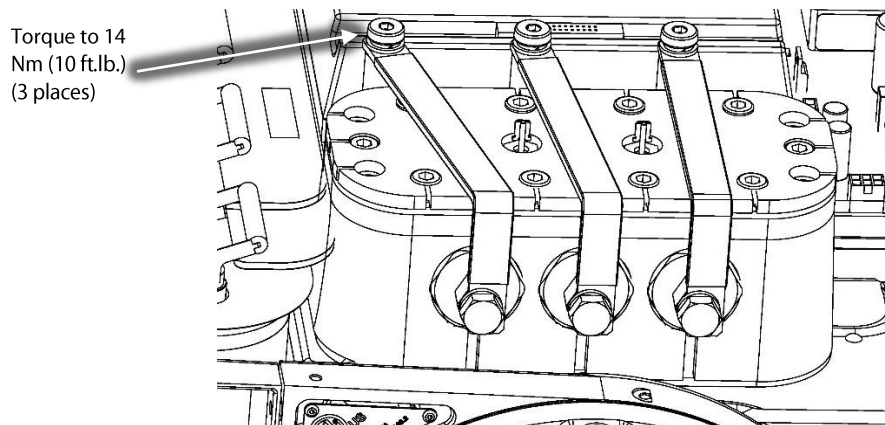

Figure 28 – Copper Tube Installation
12. Reinstall the three (3) copper tubes and torque the screws to 14 Nm (10 in.lb.). Refer to Figure 28 (Copper Tube Installation).